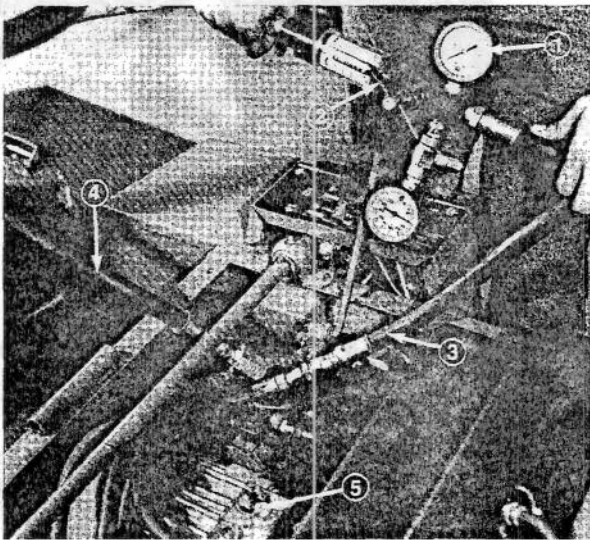

Figure 123
3. Remove seat, seat support cover and seat support and remove line from top of pump housing to lift valve from lift valve fitting (Fig. 123).
4. Install hydraulic inlet hose of test gauge into line from transmission and test gauge return line into lift valve fitting (Fig. 123).
7. Increase engine speed to 3300 rpm - full throttle and watch flow and pressure gauges. Slowly close load valve until flow gauge reads one (1) GPM (0.063 L/s). Pressure reading at one (1) GPM (0.063 L/s) should not be lower than 500 psi (3447.5 kPa). If one (1) GPM or a minimum of 500 psi (3447.5 kPa) cannot be achieved, remove implement relief valve and examine for contamination or broken parts (Fig. 123). If no contamination or damage is evident, add one shim to assembly and repeat test.